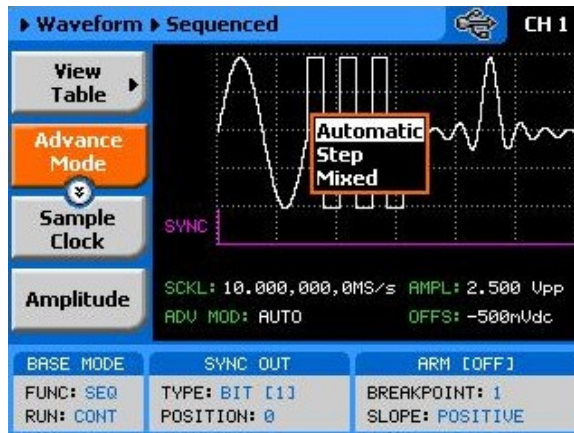

Figure 3-20, Sequence Advance Options
1. Refer to Figure 3-20 and select the Advance Mode with the appropriate soft key. The advance mode options, as shown in Figure 3-20 will display. Use the dial or arrow keys to scroll down to the required mode and press Enter to lock in the selected mode.
The operating mode of the instrument, as selected from the Run Modes menu, affects the way that the 2074 lets you access the sequence advance mode parameter. If you are in continuous mode, as shown in Figure 3-20, you can select one of: AUTO, STEP, or MIXED. If you already selected the triggered run mode, you’ll be able to select from AUTO, or SINGLE only as advance modes.